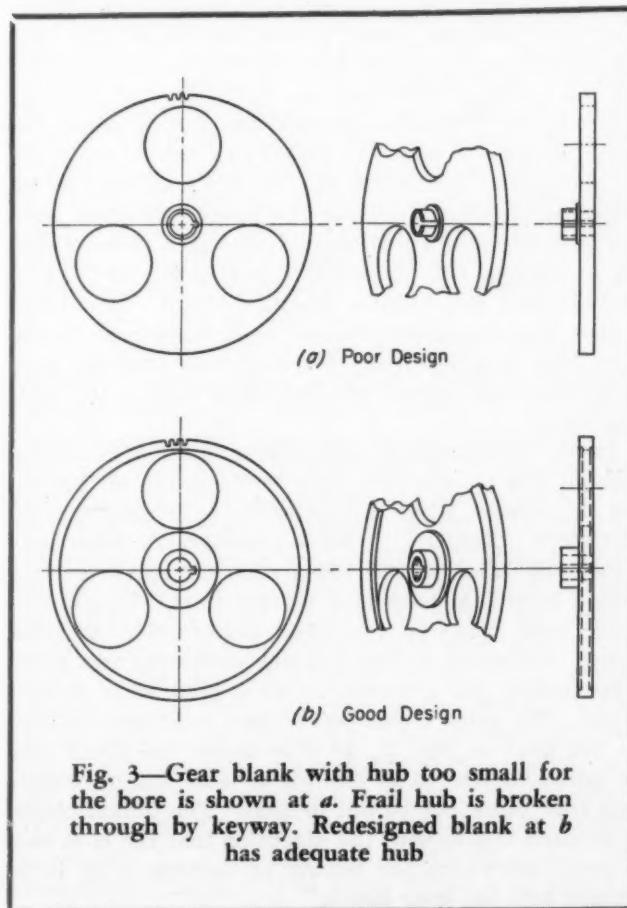
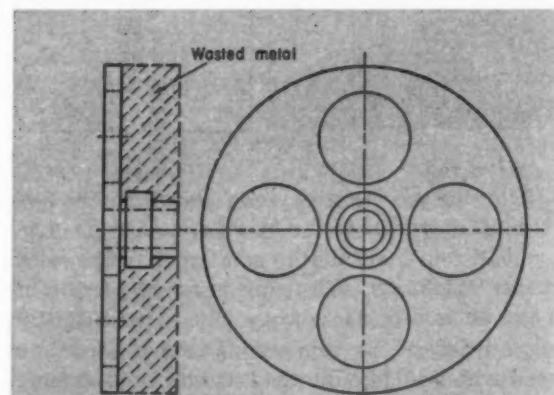
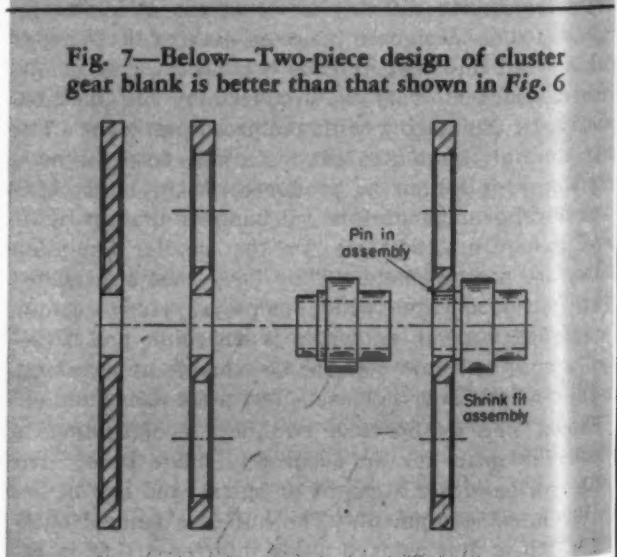

Fig. 3—Gear blank with hub too small for the bore is shown at *a*. Frail hub is broken through by keyway. Redesigned blank at *b* has adequate hub
Fig. 6—Above—Cluster gear blank of stainless steel. Shaded area represents wasted metal
Fig. 7—Below—Two-piece design of cluster gear blank is better than that shown in Fig. 6
An example of a gear blank with a hub too small for its diameter is illustrated in *Fig. 3*. In addition to this, the keyway breaks through the thin hub as shown in *Fig. 3a*. In this case, the bore tolerance was 0.0003-inch, difficult enough to produce when in an unbroken hole. The designer added to the difficulty by not foreseeing that the keyway would break through its hub.
In Fig. 6, showing a cluster-gear blank of stainless steel, it will be seen that, in order to obtain the pinion for the cluster, all of the material in the shaded area is wasted. Actually, it takes considerably more material and labor to turn down the bar stock for the pinion than that consumed for the gear. This is another case where a two-piece construction is indicated. Referring to Fig. 7 which shows the two piece construction, the gear can be made from sheet or bar stock. The sides should be recessed as shown, similar to the gear in Fig. 3. In this stage, the blank can be bored to size to fit the pinion and rough turned. The four holes can be put in next. The pinion blank is finished to size with the exception that the bore has a small allowance for honing or lapping after it is shrunk into the gear blank.
Details of the cutter drive are shown in *Fig. 6*. Bevel gearing on the variable-speed transmission output shaft drives the pinion (previously discussed) on the other side of the machine. Through an idler, this pinion drives the gear crank of the cutter mechanism. In this machine, one revolution of the machine drive-shaft or the input shaft of the transmission is equivalent to approximately one foot of paper so that a tolerance of 1/32-inch in sheet length is equivalent to about one degree of slip, indicating the accuracy of the transmission.
Construction details of the double-crank mechanism, the knife cylinder drive and the speed adjustment control are shown in *Fig. 7*. The double-shaft gearmotor drives through bevel gearing both the variable-
**Fig. 7—Elevation section through machine showing gearmotor control of both output speed of transmission and pivot position of crank mechanism. Pivot position is always such that cutting action takes place at line speed regardless of speed ratio setting of transmission**